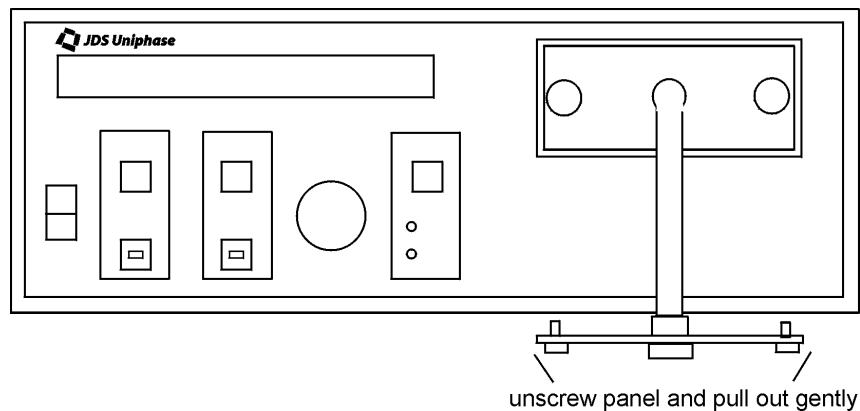

Figure 10: Removing the Connector Panel
1. Loosen the retaining screws of the connector panel, and remove the panel carefully to access the internal connectors (Figure 10).